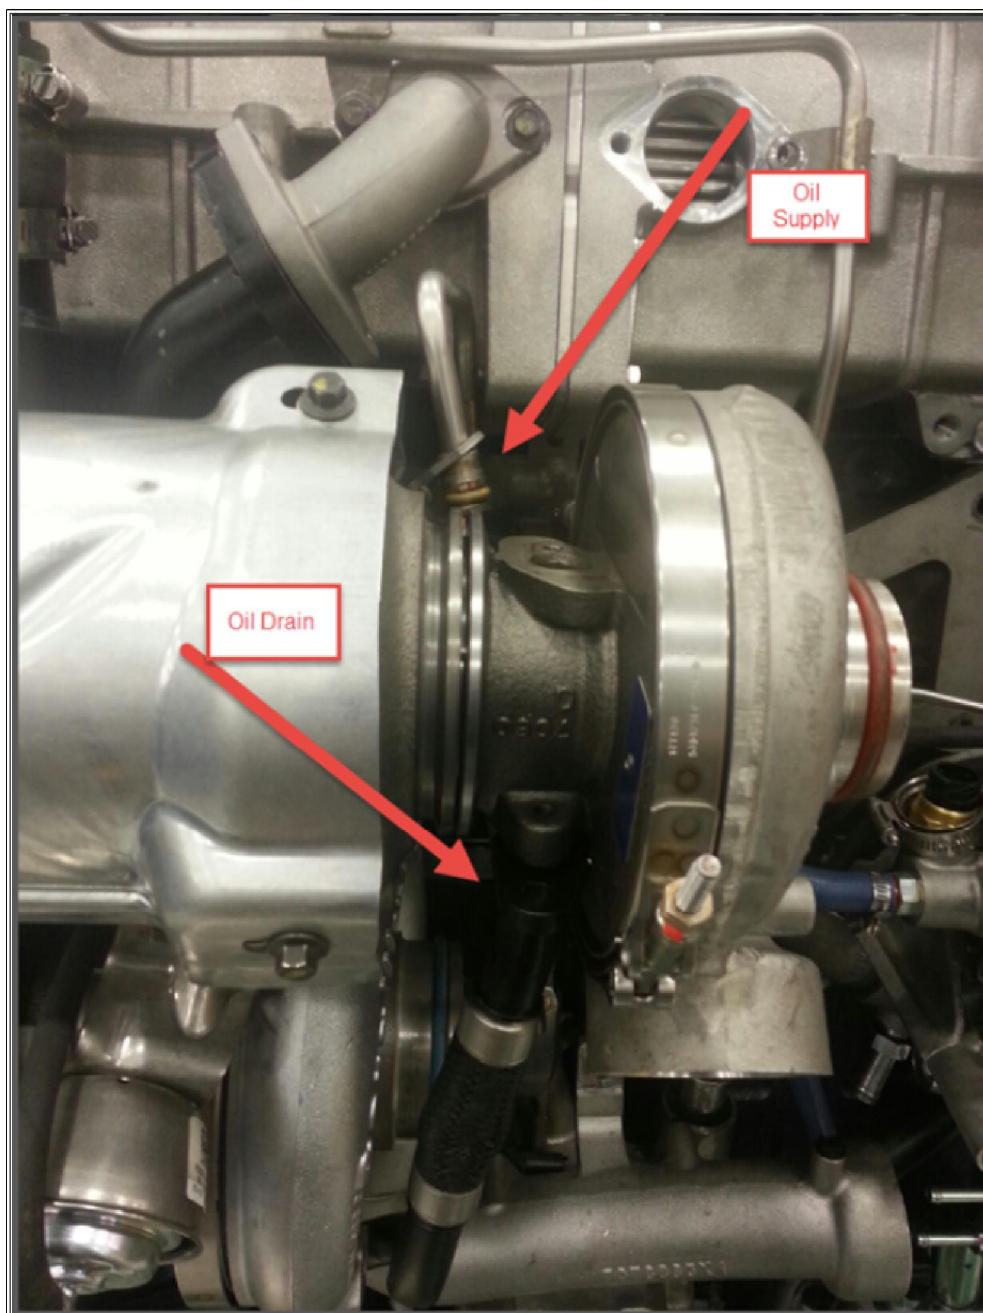

Figure 3. HP turbocharger Center Section
6. Install new gasket onto oil return tube and install into HP turbocharger. (Figure 3)
7. Install new HP turbocharger oil supply tube on engine. (Figure 3)
8. Install the components that were removed to gain access to the High Pressure (HP) Turbocharger. See 15L Engine Service Manual.